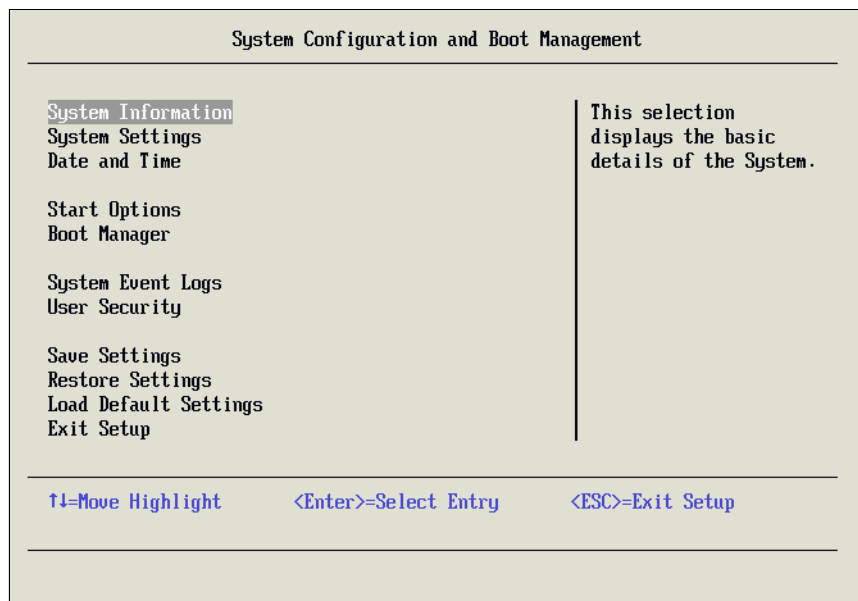

Figure 2-11 UEFI main panel
1. Power on the system and interrupt the boot sequence by entering the system UEFI by pressing the F1 key. Figure 2-11 shows what you will see after you enter the UEFI.